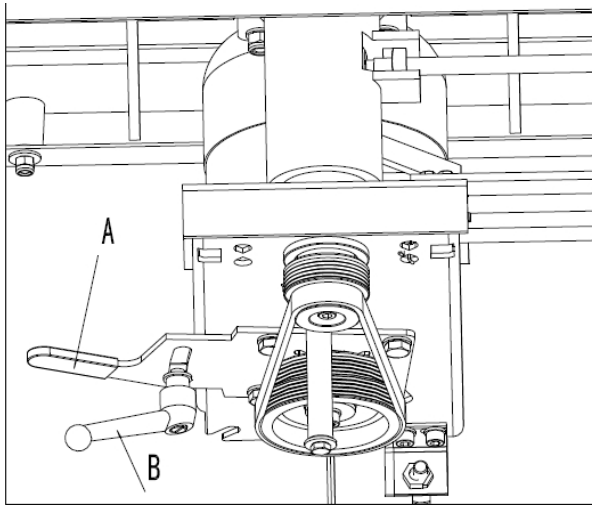

Fig. 15: Changing the belt position
Step 2: Loosen the lock handle (Pos. A, Fig. 15) and pivot the motor assembly toward the spindle.
Step 3: Reposition the belt to the desired speed and tension the knob (Pos. B, Fig. 15).